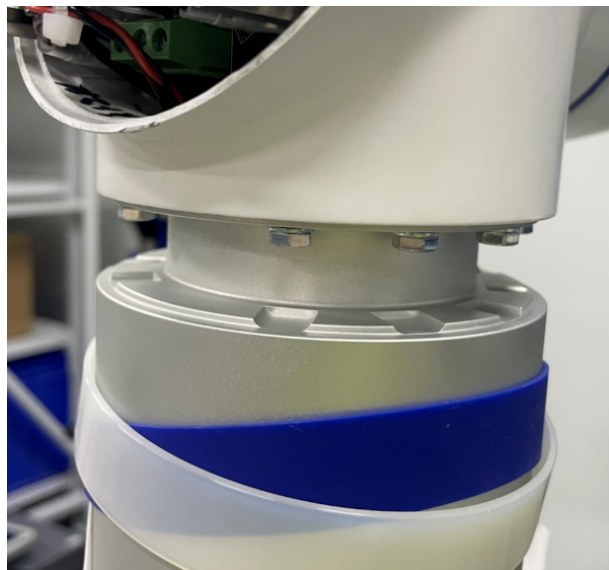

Figure 3-12 : Remove the upper arm rubber ring and supporting ring
4. Gently remove the rubber ring and hang it around the upper arm to remove the supporting ring as shown in **Figure 3-12** :